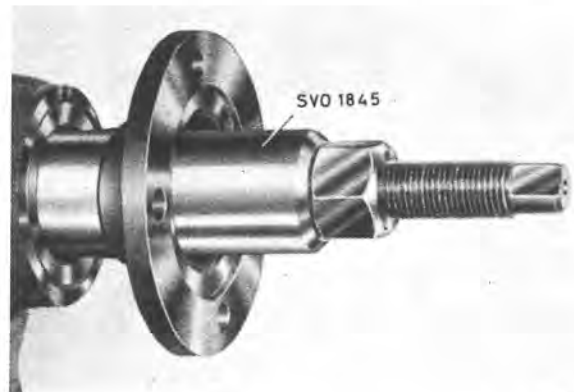

Fig. 4-15. Fitting flange
4. Press on the flange with tool SVO 1845, see Fig. 4-15. Fit the other parts.